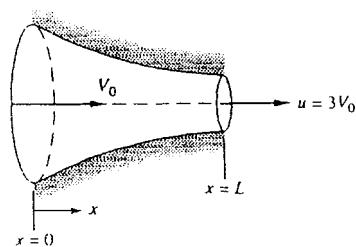

Fig. P4.2
**4.2** Flow through the converging nozzle in Fig. P4.2 can be approximated by the one-dimensional velocity distribution
**4.6** Assume that flow in the converging nozzle of Fig. P4.2 has the form  $\mathbf{V} = V_o(1 + 2x/L)\mathbf{i}$ . Compute (a) the fluid acceleration at  $x = L$ ; and (b) the time required for a fluid particle to travel from  $x = 0$  to  $x = L$ .